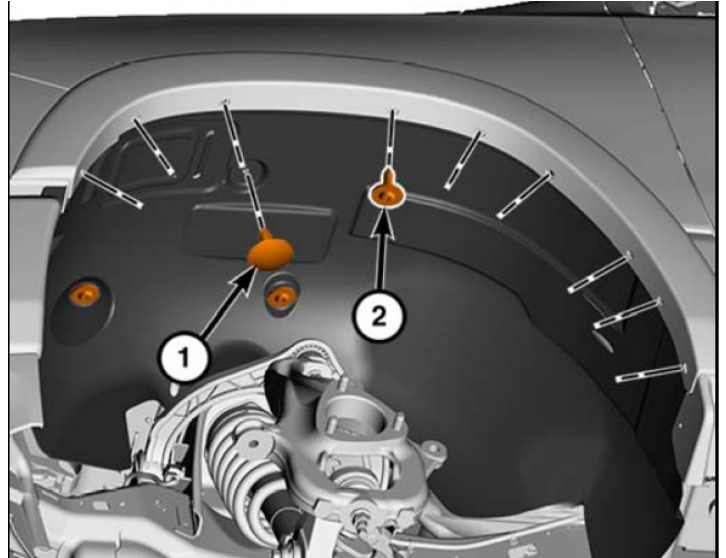

Figure 4
5. Using an 10mm socket wrench and plastic panel pry tool, remove the twelve (12) screws and two (2) push pins from the inner fender and set aside for trimming. (Figure 4 and 5)